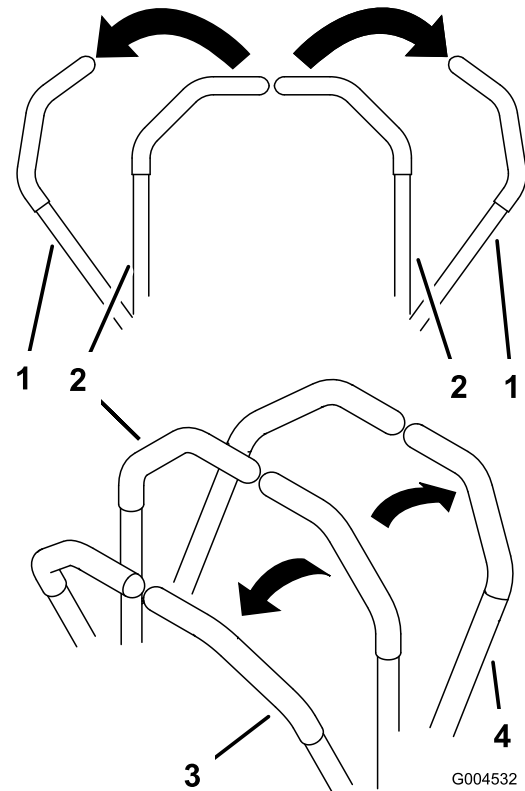

Figure 13
2. To go forward, slowly push the motion control levers forward (Figure 13).
To go straight, apply equal pressure to both motion control levers (Figure 13).
To turn, release pressure on the motion control lever toward the direction you want to turn (Figure 13).
2. To go backward, slowly pull the motion control levers rearward (Figure 13).
To turn, release the pressure on the motion control lever toward the direction you want to turn (Figure 13).